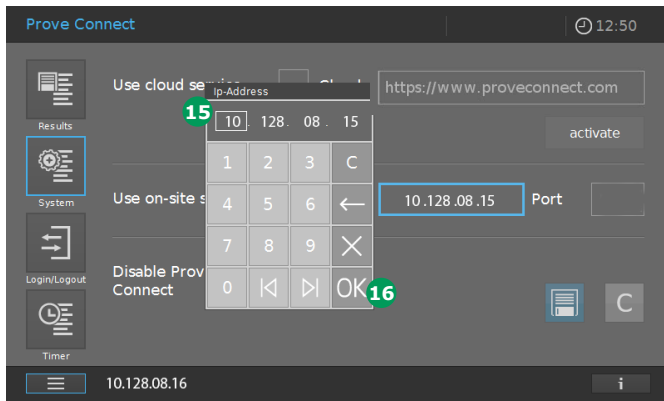

Figure 31 - Screen of Spectroquant® Prove (Figure 28) with entered IP address of the PC on which Prove Connect runs
8. On the Spectroquant® Prove, click in the field "IP address" (text box with the blue border) and the entry field appears 15 (Figure 31).
10. Confirm the entered IP address with "OK" 16 (Figure 31).